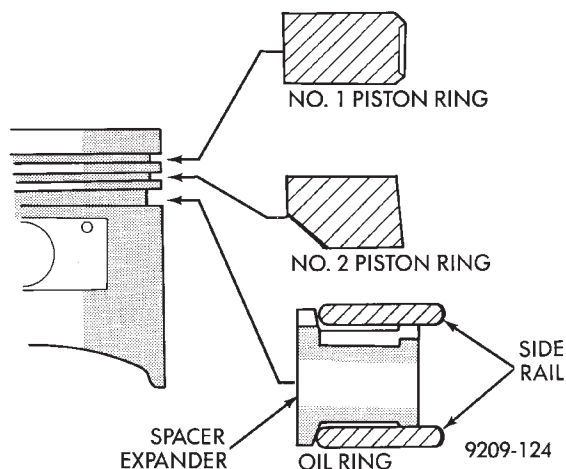

Fig. 80 Piston Ring—Installation
(1) The No. 1 and No. 2 piston rings have a different cross section. Ensure No. 2 ring is installed with manufacturers I.D. mark (dot) facing up, towards top of the piston (Fig. 80).